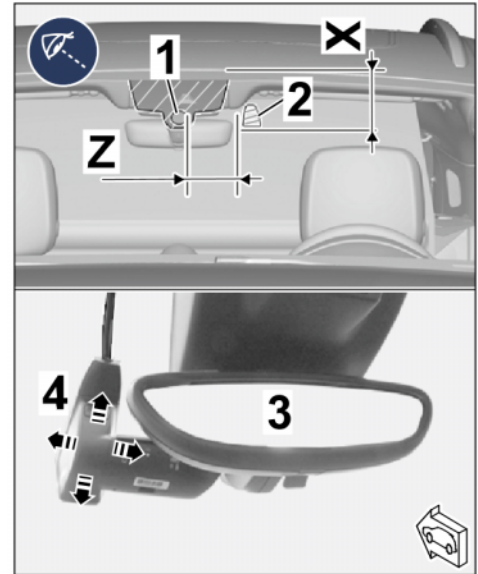

Figure 8
2.1.3 Copy dimensions X and Z on the windshield. ⇒ *Figure 8-top-*
2.1.4 Position front camera with retainer plate in the vehicle at the marking on the windshield. ⇒ *Figure 8-Arrows-*